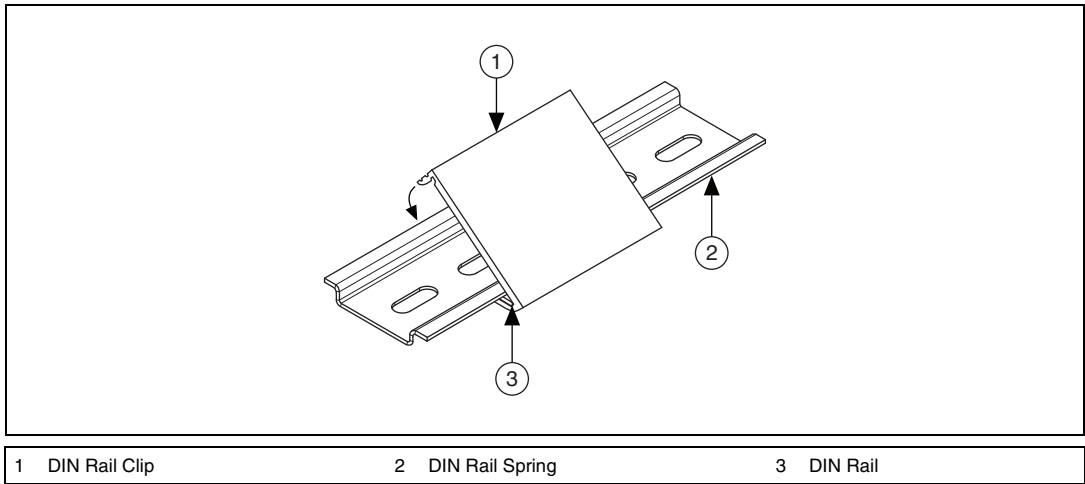

Figure 3. Attaching the DIN Rail Clip to the DIN Rail
- Clip the chassis and DIN rail clip assembly to the DIN rail, as shown in Figure 3.